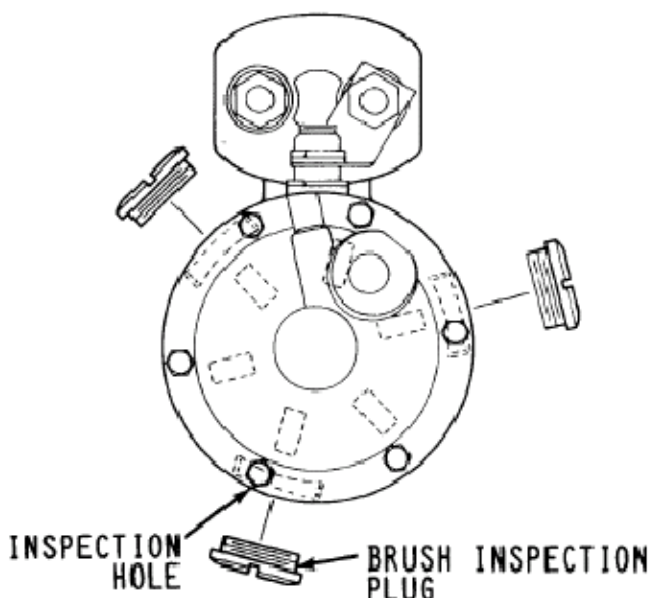

Figure 2-10. Inspection Holes for Visual Check for Excessive Arcing
- 12) Remove three brush inspection plugs (fig. 2-10) and look into motor through each opening. Any unusual arcing seen at brush contact surface can be due to one or more of the causes listed in Table 2-1.